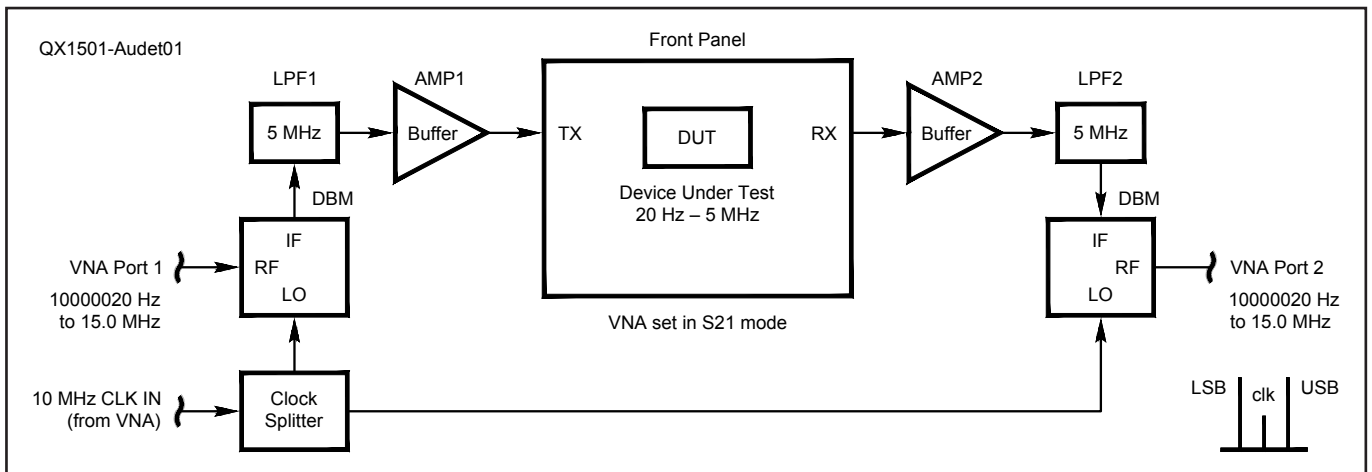

Fig 25.92 — Basic block diagram of the low frequency adapter for vector network analyzers.
The VNA is configured to use frequencies from 10 MHz to 15 MHz on its output (port 1) when measuring S_{21} (attenuation or gain as well as phase shift between ports 1 and 2). **Fig 25.92** shows the adapter's block diagram. The output signal is mixed in a double balanced mixer (DBM) with a local oscillator (LO) of 10 MHz. The difference signals from 20 Hz to 5 MHz are passed through a low-pass filter (LPF) and are available at the transmit (TX) output port for frequency response testing.